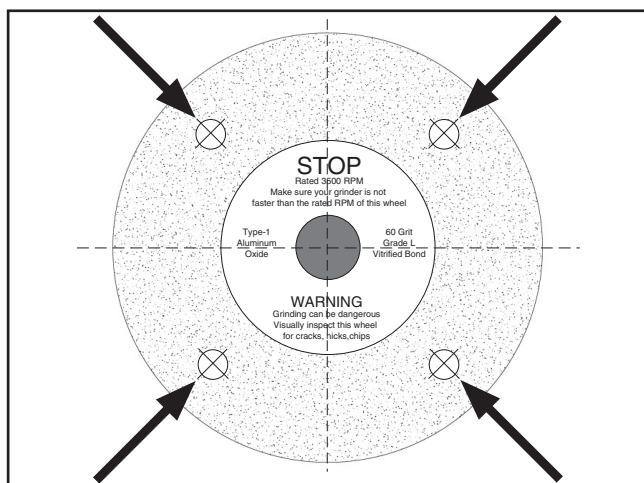

Figure 11. Tapping locations when performing a ring test.
3. At the spots shown in **Figure 11**, gently tap the wheel with a light non-metallic device such as the handle of a screwdriver or a wooden mallet.